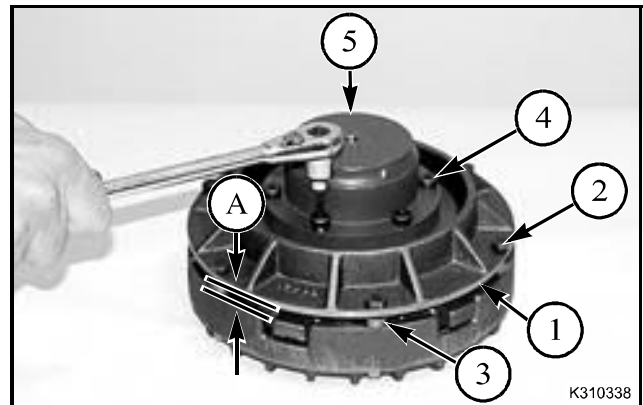

FIG. 16
FIG. 16: Install the compression plate (1) using six 5/16-18 x 2-1/2 cap screws (2) and 24 hardened plain washers (3). When a new friction disc has been installed, four washers are put between the compression plate and clutch housing for each cap screw. The clutch is adjusted by adding or removing washers under the compression plate.